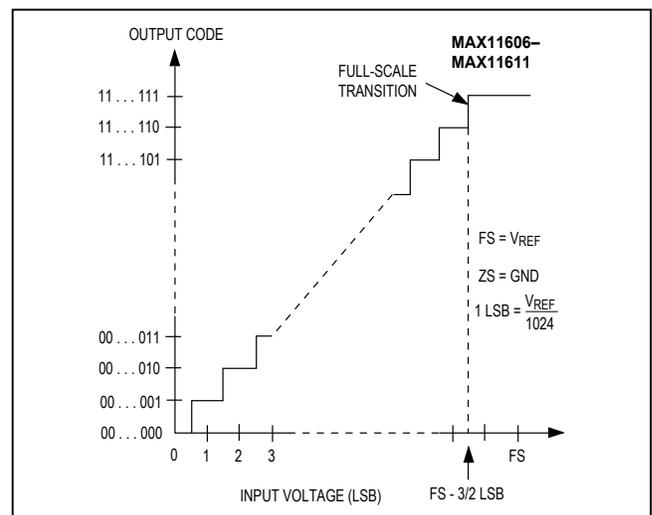
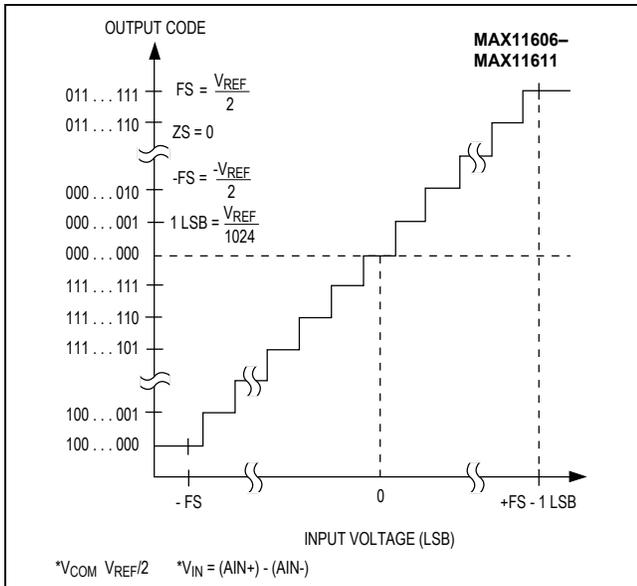

Figure 12. Unipolar Transfer Function
Figure 13. Bipolar Transfer Function
Output data coding for the MAX11606–MAX11611 is binary in unipolar mode and two’s complement in bipolar mode with  $1\text{ LSB} = (V_{REF}/2N)$  where N is the number of bits (10). Code transitions occur halfway between successive-integer LSB values. Figure 12 and Figure 13 show the input/output (I/O) transfer functions for unipolar and bipolar operations, respectively.